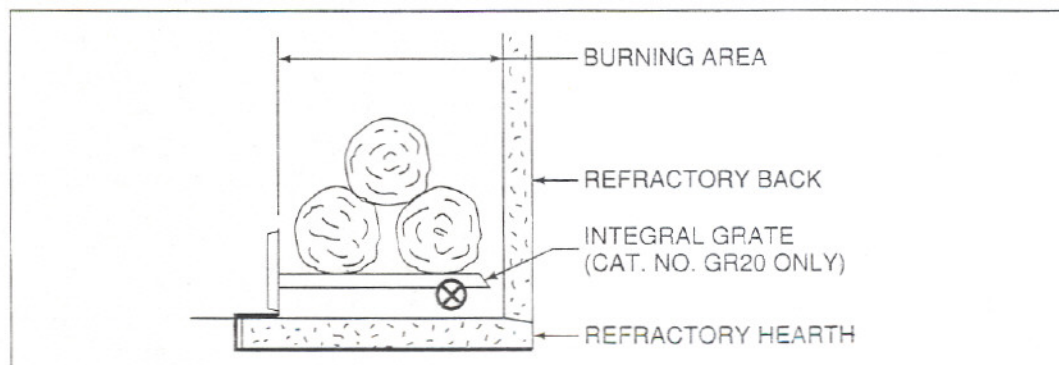

Figure 19
E. **GRATE.** The factory installed Integral Grate must be used to hold the logs from falling out of an open fireplace and to allow air to pass between the burning logs. It is important to keep the fire off the hearth and to allow the ashes to collect beneath the fire, thereby forming a layer of additional heat protection. See Figure 19. Use only Catalog Number GR20 Integral Grate for replacement.
- I. **SETTING THE FIRE.** Check the flue damper to be sure it is fully open. Place crumpled or twisted paper under the Grate. Loosely arrange kindling or small pieces of wood to form a layer above the paper. Place three logs in a rough pyramid as shown in Figure 19, being sure to allow free air space between the logs. Small sticks of wood may be used to separate the logs. Use only solid wood fuel or a listed decorative gas appliance. Do not use a fireplace insert or other products not specified for use with this fireplace. **NOTE:** When heated the first time, the temperature of the fireplace must be raised gradually, to prevent moisture within the refractory from causing cracks, and to allow the binders in the insulation to dissipate.